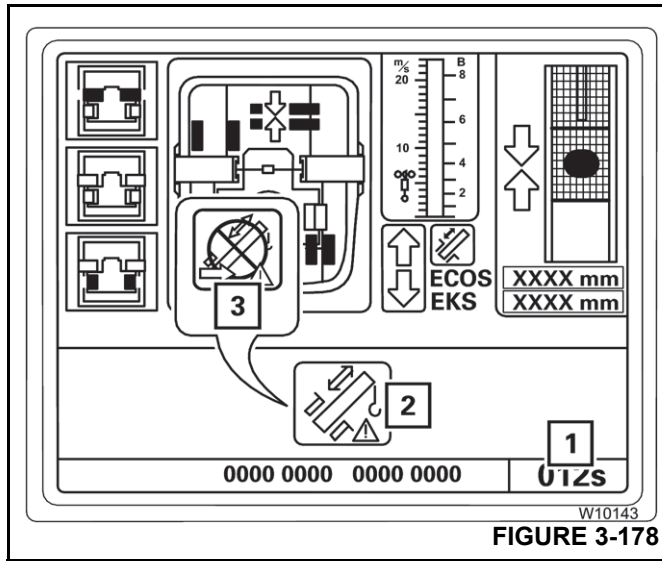

FIGURE 3-178
6. The Telescoping submenu opens, refer to (Figure 3-178).